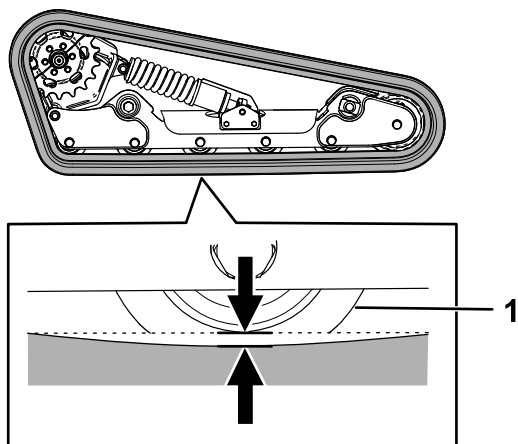

Figure 24
Lift/support 1 side of the machine and using the weight of the track, verify that the gap between the bottom of the lip of the road wheel and the track is 13 mm (1/2 inch) as shown in Figure 24. If it is not, adjust the track tension using the following procedure.
5. Using a 1/2 inch drive ratchet, turn the tensioning screw until the track gap is 13 mm (1/2 inch) as shown in Figure 24.
9. Verify that the track deflection is 13 mm (1/2 inch) as shown in Figure 24. Adjust if necessary.
7. Using a 1/2 inch drive ratchet, turn the tensioning screw counter-clockwise until the track deflection is 13 mm (1/2 inch) as shown in Figure 24.
12. Verify that the track deflection is 13 mm (1/2 inch) as shown in Figure 24.